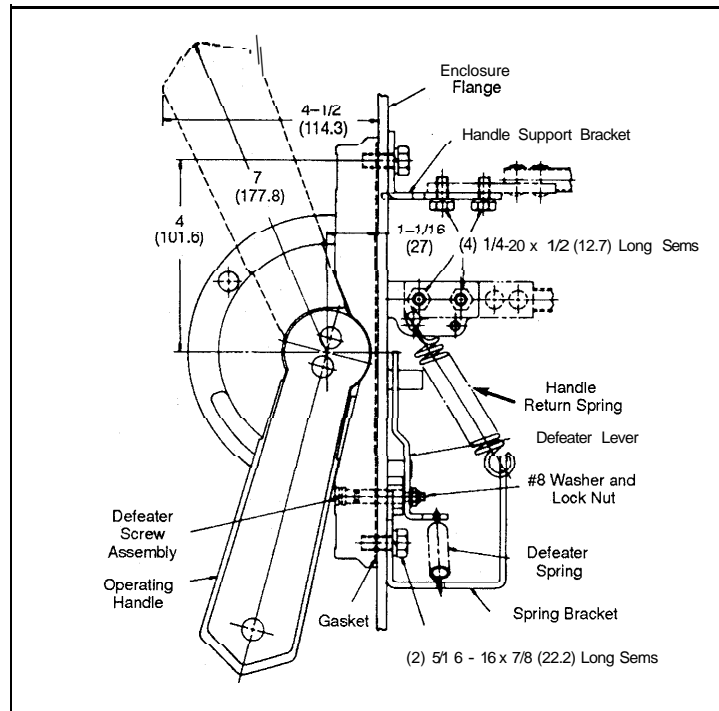

Figure 3
4. Mount the operating handle, gasket, spring bracket and the handle support bracket as shown in Figure 3 using two 5/16" 18 x 7/8" (22.2) screw assemblies. Apply furnished grease to the gasket before installing in the handle housing groove. Tighten the mounting screws which hold the operating handle spring bracket and support bracket to the flange to 50 lb-in. torque.
6. Insert the defeater screw assembly into the handle housing. Then fasten the defeater lever with the #8 flat washer and nylon inserted lock nut as shown in Figure 3. Keep the defeater screw assembly engaged with the defeater lever and tighten the nut to 15 lb.-in. torque. Attach the defeater spring.